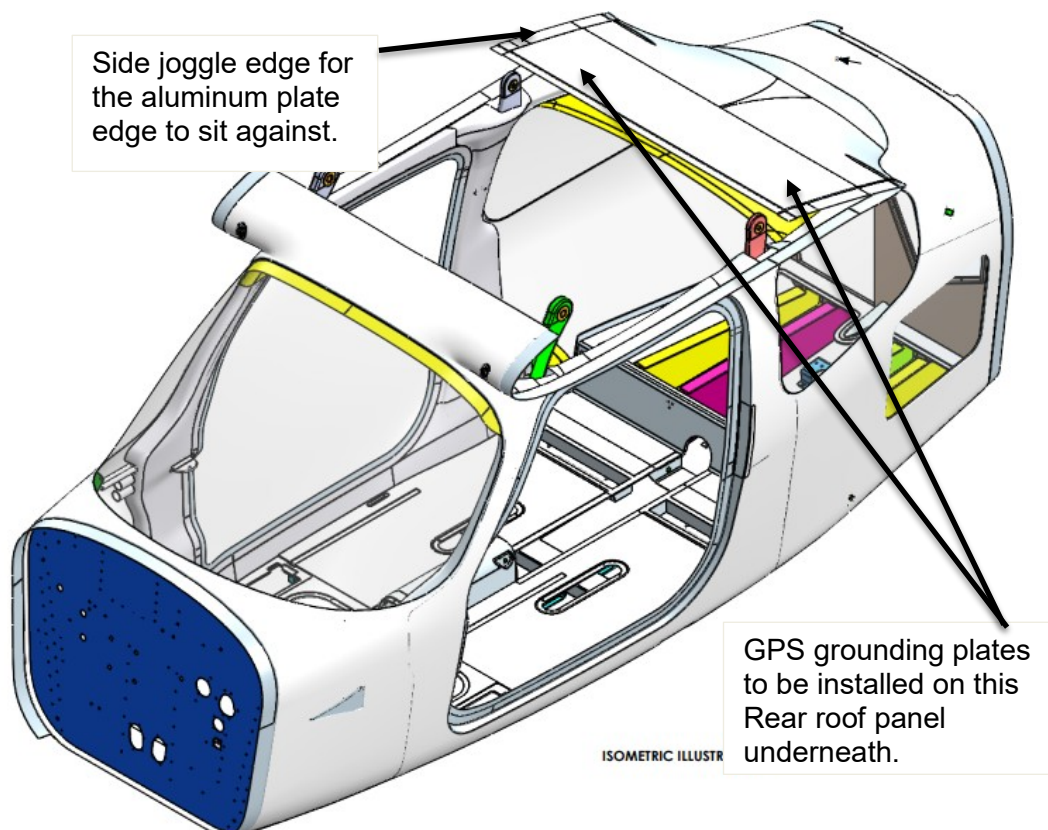
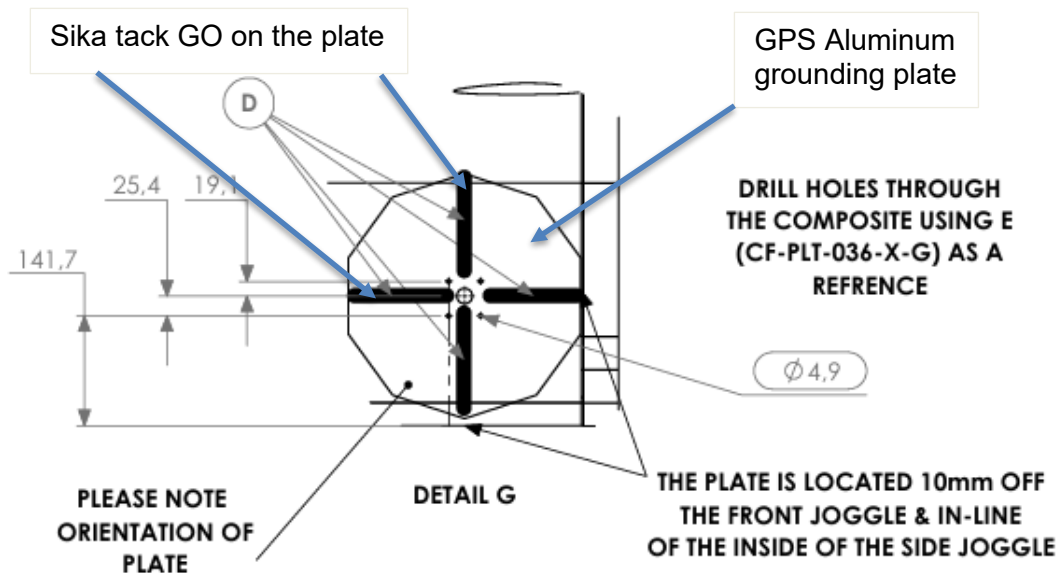

Figure 23: Rear roof panel is shown on where to bond the GPS plates underneath.
Figure 24: Sika tack GO of thickness 3-5mm is shown on the GPS ground plates.
Step 2: Place the GPS ground plates on top of the rear roof panel to drill the antenna holes as shown in Figure 23. Note the orientation of the GPS ground plates in Figure 24.
Step 3: The plate is bonded 10mm off the front joggle and its side edge is to be in-line of the inside of the side joggle as shown in Figure 24.